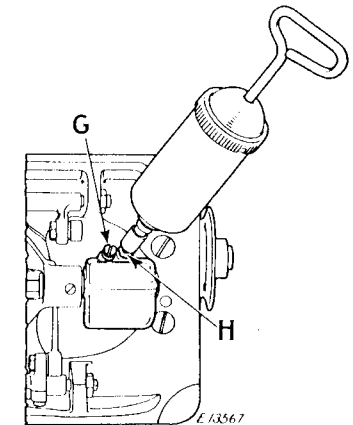

Fig. 5
To supply grease to the lower gear case (Fig. 5), lay the machine back on the table, remove the level hole screw (G, Fig. 5) and force the lubricant into the Alemite fitting (H, Fig. 5) until it emerges from the level hole at (G), then replace the screw (G).